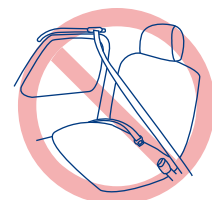

Fig. 17-3
- v) DO NOT use a shoulder belt that moves along a track. These systems typically move to surround the occupant when the door is closed. This type of belt system will NOT adequately restrain the Safety Seat. (Fig. 17-3).